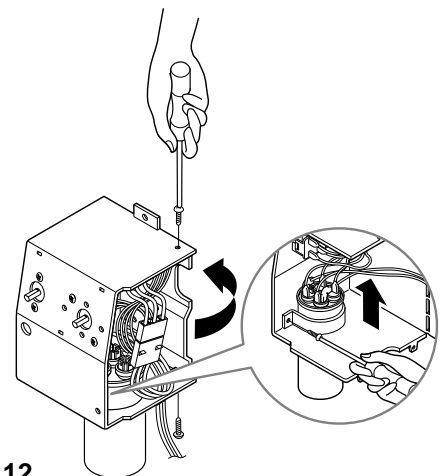

Figure 12
3. Remove 2 screws and unfold the control box. (See Fig. 12)
5. Remove the screw and the clamp which fastens the capacitor. (See Fig. 12)